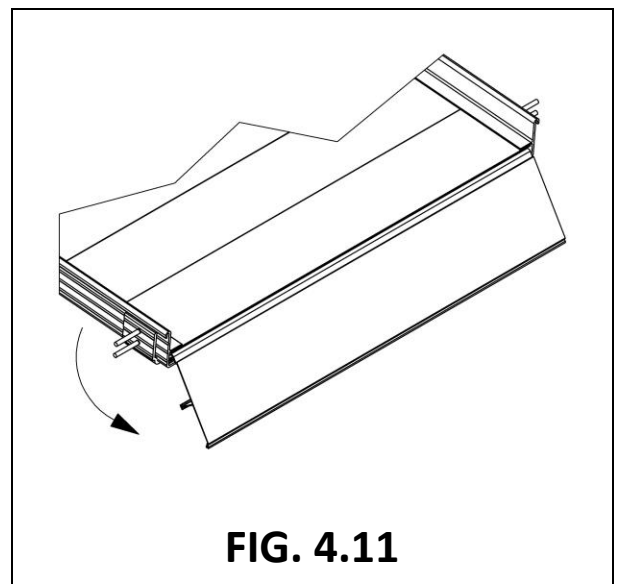

FIG. 4.11
4.5.3. Rotate into place (FIG. 4.11) and set back on the ground.